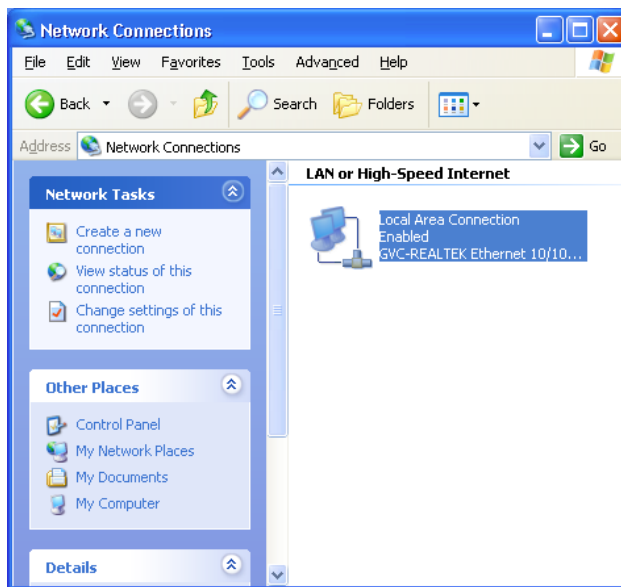

Figure 3. The Network Dialog
1. Open the Windows Control Panel and double-click the **Network and Internet Connections** icon. The **Network Connections** dialog box appears (Figure 3).